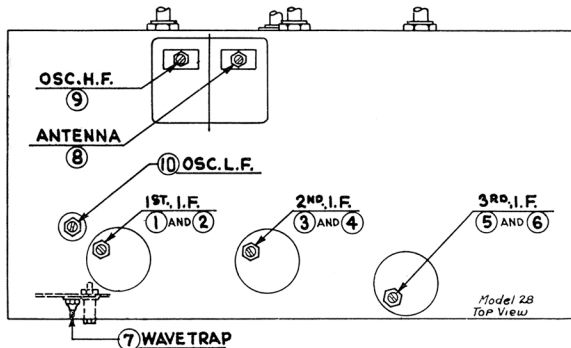

Fig. 4
from the signal generator directly to the antenna terminal of the receiver. Set the Wave-Band Switch of the receiver to the standard broadcast band (left-hand position) and the Station Selector at the low frequency (540 K.C.) end. Adjust the Wave Trap condenser to give MINIMUM response to a 460 K.C. signal from the signal generator. The Wave Trap (7) is located at rear and underneath the chassis, and is shown in Figure 4. It is reached from the rear of the chassis by inserting the fibre wrench through the hole near left-hand rear corner of chassis.
Finally, set the signal generator at 600, tune in this signal and adjust the "oscillator L.F." condenser, located underneath chassis (10) in Fig. 4) to maximum reading. This adjustment is reached through the hole in top of chassis, between the two electrolytic condensers (left-hand end of chassis when facing rear).